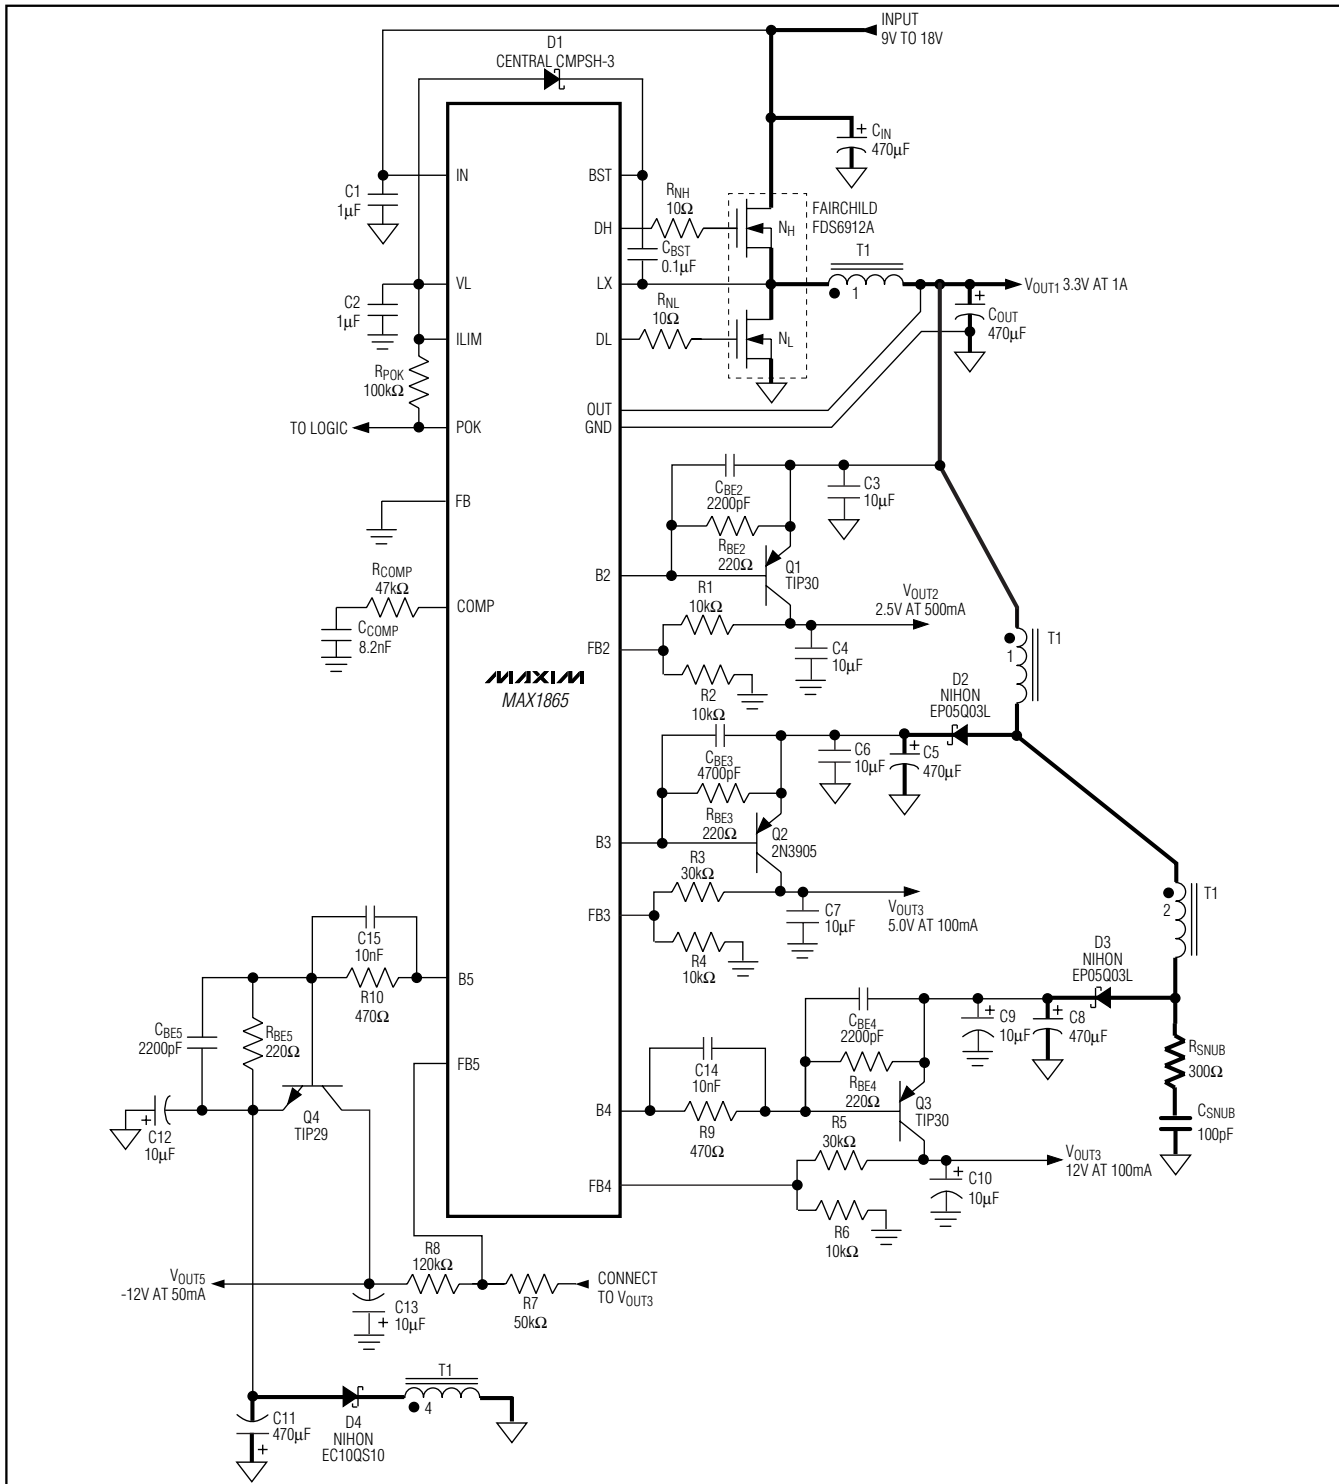

Figure 6. Standard MAX1865 Application Circuit
The MAX1864/MAX1865's positive linear regulator output voltages are set by connecting a voltage-divider from the output to FB_- to GND (Figure 6). Select R_4 in the 5k Ω to 50k Ω range. Calculate R_3 with the following equation:
The MAX1865's negative output voltage is set by connecting a voltage-divider from the output to FB_5 to a positive voltage reference (Figure 6). Select R_6 in the 5k Ω to 50k Ω range. Calculate R_5 with the following equation:
In systems where the step-down controller's output is not the highest voltage, a transformer may be used to provide additional postregulated, high-voltage outputs. The transformer generates unregulated, high-voltage supplies that power the positive and negative linear regulators. These unregulated supply voltages must be high enough to keep the pass transistors from saturating. For positive output voltages, connect the transformer as shown in figure 6 where the minimum turns ratio (N) is determined by:
only), connect the transformer as shown in Figure 6, where the minimum turns ratio is determined by:
The MAX1864/MAX1865 use a current-mode control scheme that senses the current across the high-side MOSFET (N_H). Immediately after the high-side MOSFET has turned on, the MAX1864/MAX1865 use a 60ns current-sense blanking period to minimize noise sensitivity. When the MOSFET turns on, however, the transformer's secondary inductance and the diode's parasitic capacitance form a resonant circuit that causes ringing. Reflected back through the transformer to the primary side, these oscillations across the high-side MOSFET may last longer than the blanking period. A series RC snubber circuit at the diode (Figure 6) increases the damping factor, allowing the ringing to settle quickly. Applications with multiple transformer windings require only one snubber circuit on the highest output voltage. Applications with low turn ratios (1:1), such as the MAX1864 typical application circuit (Figure 1), may not require a snubber circuit.
For the EC10QS10 Nihon diode used in figure 6, the capacitance is roughly 15pF. The output snubber must only dampen the ringing, so the initial turn-on spike that occurs during the blanking period remains preset. A 100pF capacitor works well in most applications; larger capacitance values require more charge, thereby increasing the power dissipation.
The snubber's time constant (t_{SNUB}) must be smaller than the 100ns blanking time. A typical RC time constant of approximately 30ns was chosen for Figure 6: